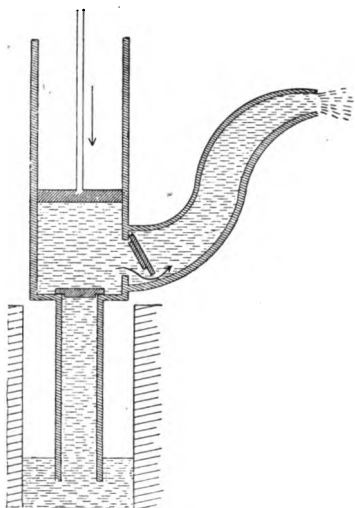

FIG. 315.—SIMPLE FORCE PUMP
**320. Simple Force Pump.** If the piston of Figure 313 were solid, and a valve opened outward near the bottom (Fig. 315), we should have a *force pump*, in which water would come out